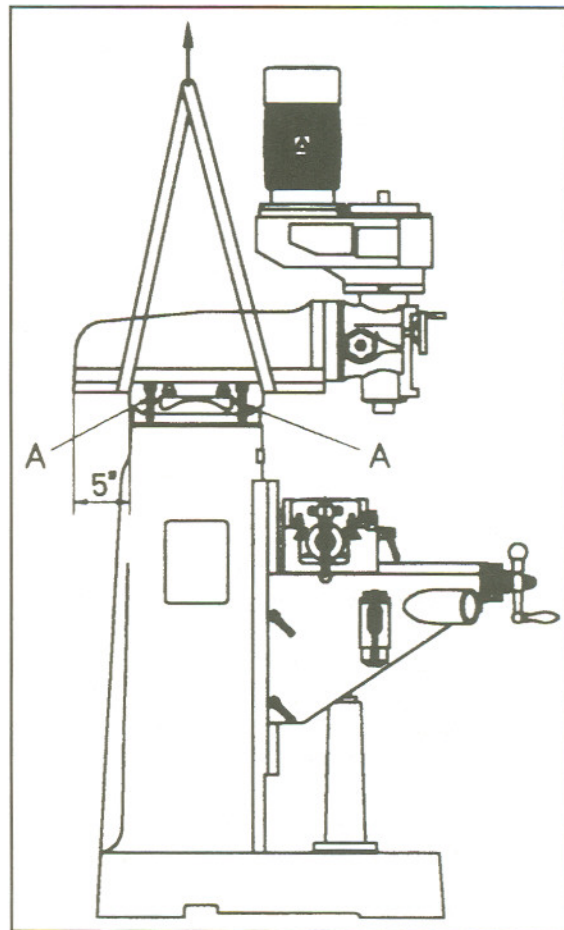

Fig. 2
Lift the mill with appropriate sized lifting straps. Follow the diagram in Fig. 2 for the proper position of the straps under the ram.
**Note:** the position of the ram, and that the table has been moved against the column. Tighten ram locking bolts (A, Fig. 2) before lifting.